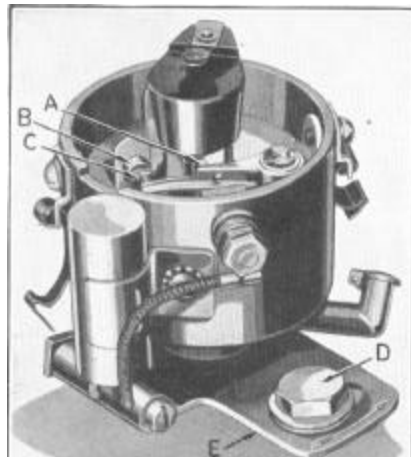
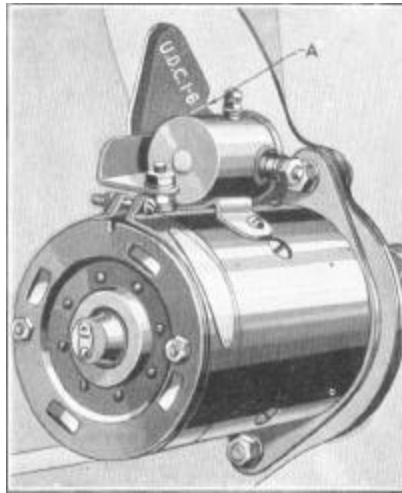

Figure 35
Figure 36
The distributor, Figure 35, mounted on the right side of the engine, is of the full automatic advance type, employing a single six-lobe cam and single breaker arm. A graduated advance plate (E), Figure 35, is provided to permit manual adjustment of distributor to provide for variation in octane rating of fuels to prevent detonation. (See "Fuel Compensation," page 44.)
Crank engine by hand until the fibre block (A), Figure 35, of the breaker arm is on the highest point of the cam. The gap between the breaker points should be exactly .020", measured with a feeler gauge.
the pointer on timing inspection hole in the rear support plate of the motor, as indicated at (A), Figure 36. The piston is then at U. D. C. and ready to move downward on the power stroke.
Loosen distributor clamp screw (D), Figure 35, and turn the distributor housing clockwise to the limit of the slot in the clamping plate (E). Remove the central cable from the distributor cap and place the bare end about $\frac{1}{8}$ " from the intake manifold. With the ignition turned on and the U. D. C. 1-6 mark on the flywheel in line with the pointer on the inspection hole, Figure 36, turn the distributor body counter-clockwise slowly just until a spark jumps from the high tension wire to the intake manifold. Tighten clamp screw (D), Figure 35, replace central cable in distributor cap, and clamp cap on distributor.
The foregoing operations give dead center timing. This, however, due to variations in fuel characteristics (octane rating), is only approximately correct. To get the correct setting the car should be driven until the engine has reached its normal operating temperature. Allow the car to slow down to 7 miles per hour in high gear on a level, hard-surfaced road, then depress the accelerator rapidly to its limit of travel. As the car accelerates from 10 to 15 miles per hour, a slight spark knock should develop. If a knock is not heard, loosen distributor clamp screw (D), Figure 35, and turn the distributor counter-clockwise one graduation of the clamping plate (E), and repeat the acceleration test. Repeat this operation until the knock is heard. The higher the octane rating of the gasoline being used, the greater the advance required to get maximum performance and fuel economy. However, the timing should not be set more than $\frac{3}{4}$ " ahead of the upper dead center mark on the flywheel.